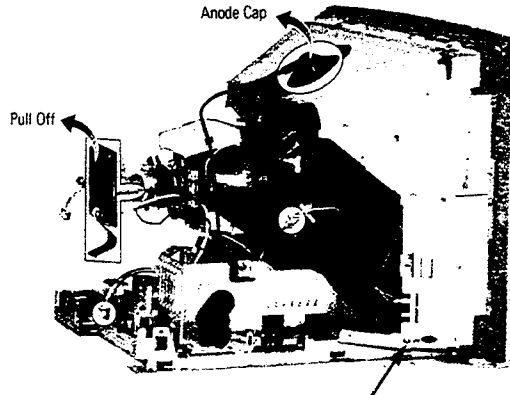

Figure 6-5
- 4) Position the Main PCB Ass'y on the front cover (see figure 6-5) and hold it secure with two screws.